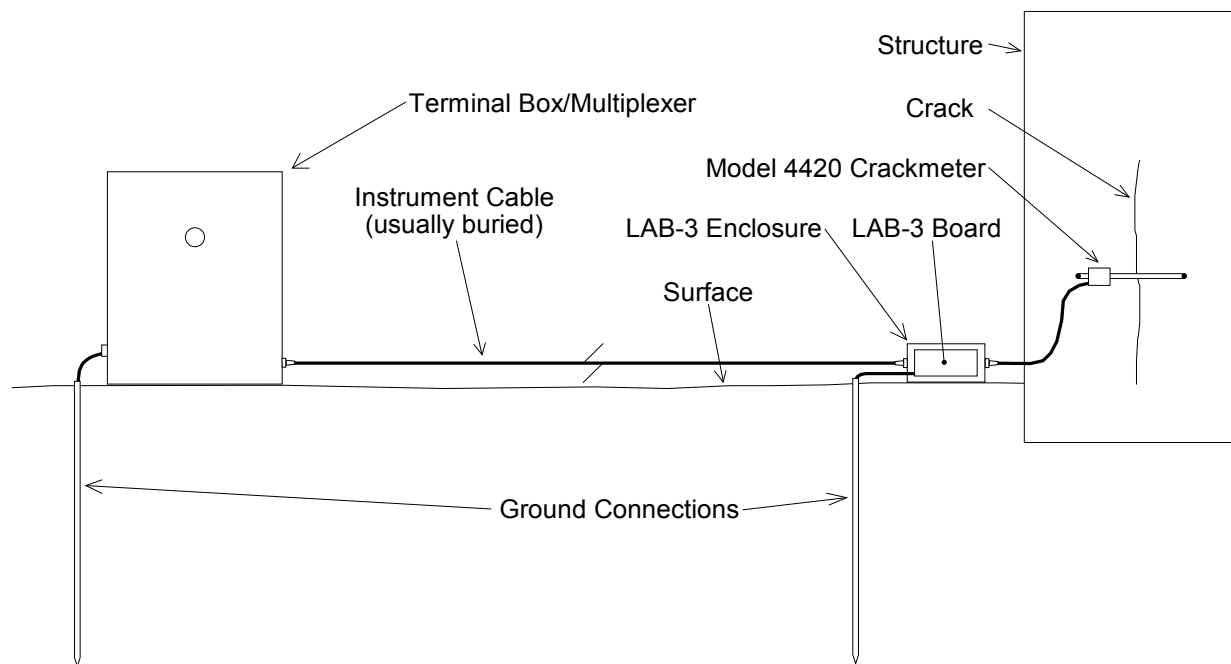

Figure 8 - Lightning Protection Scheme
- Lighting arrestor boards and enclosures are available from Geokon that install near the instrument. The enclosure has a removable top, allowing access to the protection board. In the event that the (LAB-3) is damaged, the user may service the components or replace the board. A connection is made between this enclosure and earth ground to facilitate the passing of transients away from the gauge. See Figure 8. Consult the factory for additional information on these or alternate lightning protection schemes.